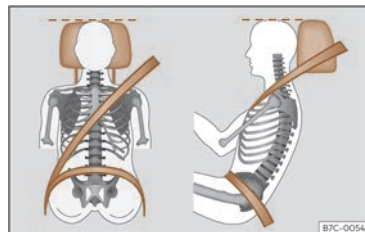

Fig. 18 Correct belt web and headrest positions
your head and under no circumstances below eye level¹⁾. Keep the back of your neck as close as possible to the headrest >>> **Fig. 18.**
- Adjust the seat lengthwise so that you can fully step on the pedals with your knees slightly bent and there is a distance between the knee area and the instrument panel of at least 10 cm (4 inches) >>> **Fig. 18.**